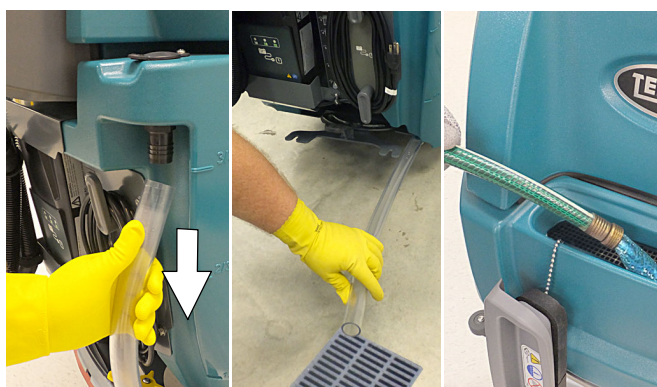

FIG. 54
3. Drain and rinse out the solution tank (Figure 54).